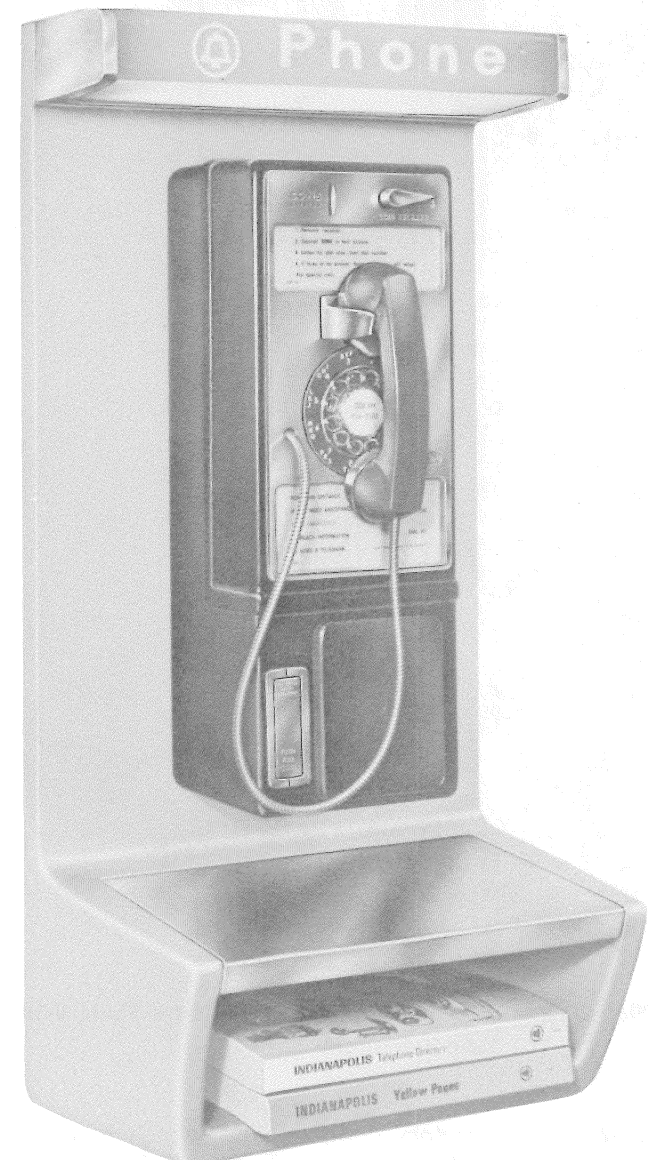
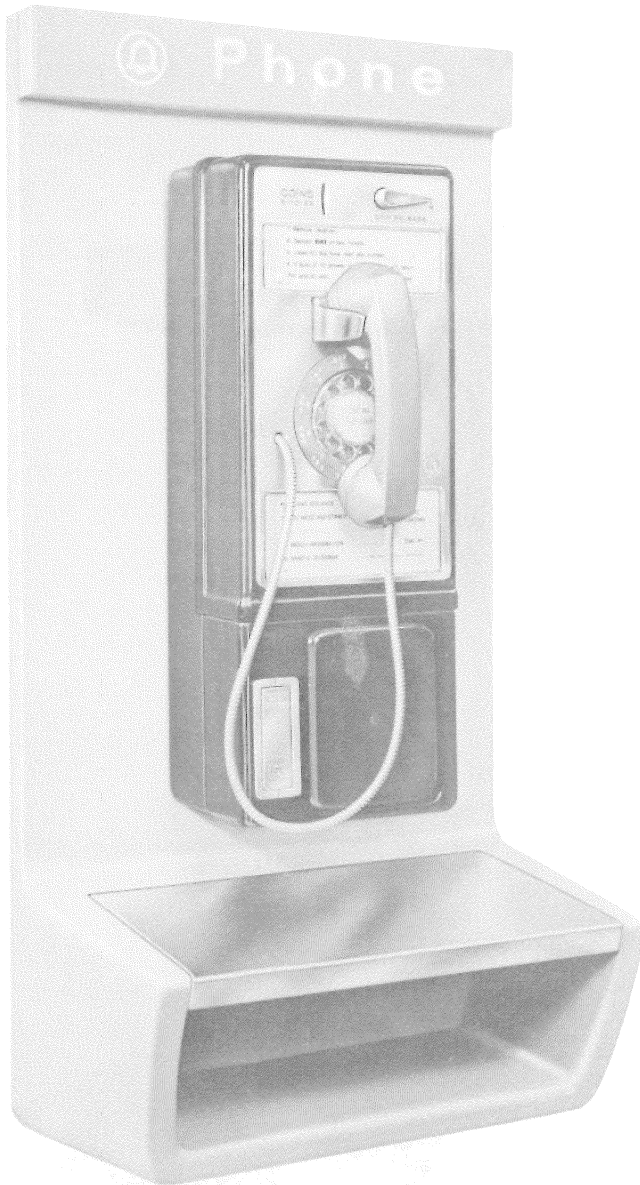

Fig. 1—KS-19945, List 1 Coin Telephone Shelf With 1C1 Coin Telephone Set
Fig. 2—KS-19945, List 3 Coin Telephone Shelf With 1C1 Coin Telephone Set
2.01 The KS-19945 coin telephone shelf (Fig. 1) is a wall mounted Fiberglas reinforced polyester molded unit intended for indoor use only.
2.06 The shelf is designed for a KS-19681, List 9 or List 10 illuminated sign (Fig. 1) or a porcelain enamel nonilluminated sign (Fig. 2 and 3).
2.07 The shelf will accept a 1A/1C/1E-type coin telephone set (Fig. 1) or a 236G coin collector